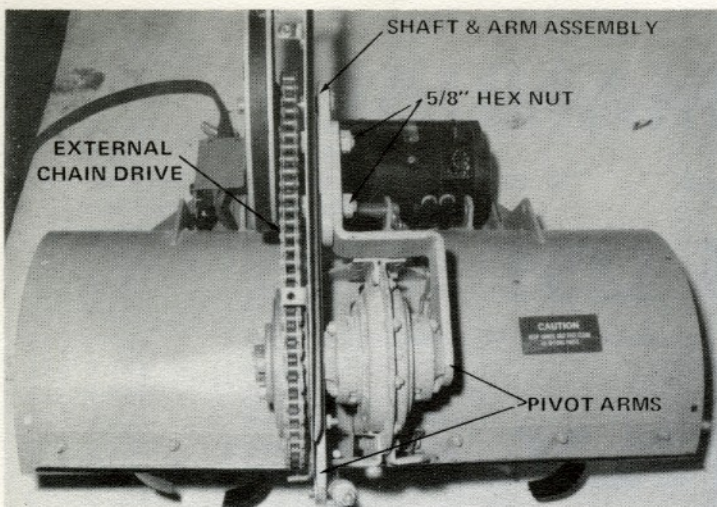
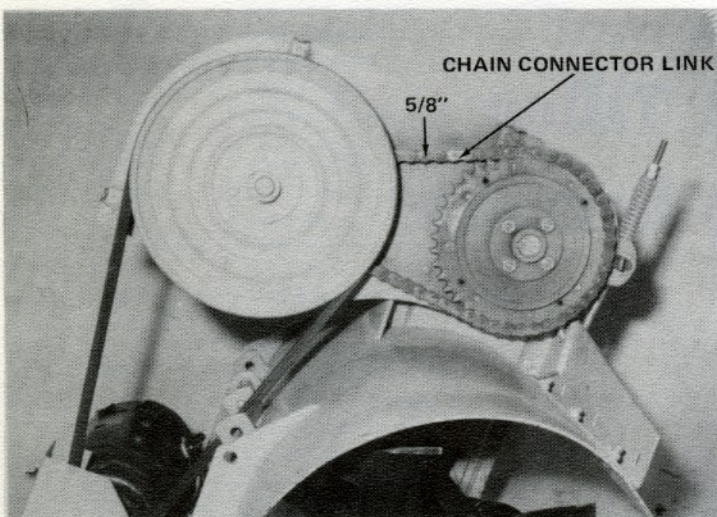

FIG. 1 - EXTERNAL CHAIN DRIVE
FIG. 2 - EXTERNAL CHAIN REPLACEMENT
ADJUSTMENT Refer to Fig. 1 & Fig. 2
REPLACEMENT Refer to Fig. 2.
- B.) Remove chain drive. (See external chain drive replacement Pg. 1—Fig. 2.)
- B.) Remove chain drive (See external chain drive replacement Pg. 1, Fig. 2).
- B.) Remove external chain (Refer to Pg. 1, Fig. 2, Chain Replacement.)